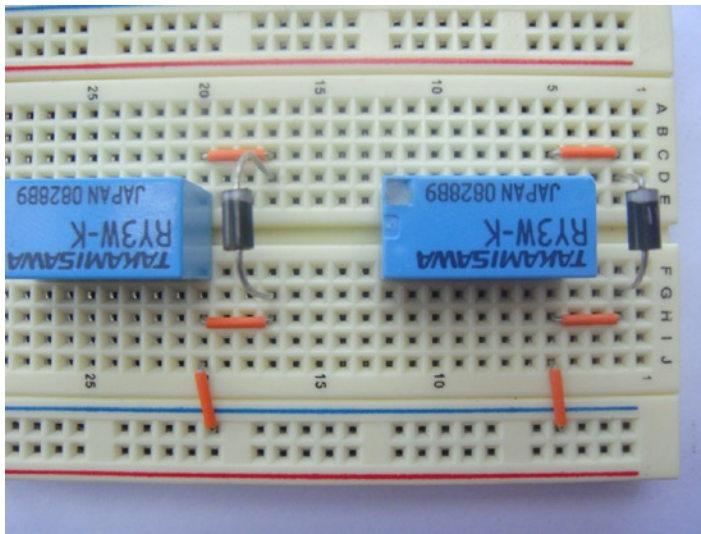

Figure 10-13. *The installed diodes and jumper wire*
4. Install a jumper wire between the ground and one side of each of the relay coils. The ground side of the relay coil must be the same side that the anode of the diode is connected to. Take a look at Figure 10-13 to see my jumpers and diodes installed.